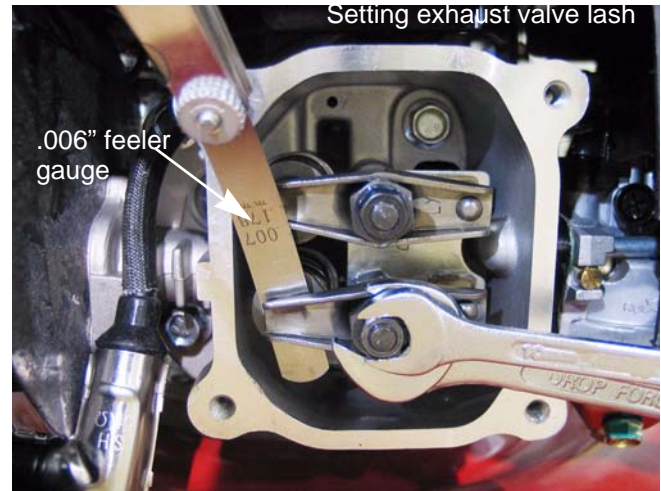

Figure 1.12
9. Exhaust valve lash (bottom valve) should be .005-.007” (.15 ± .02mm). See Figure 1.12.
10. Use a 10mm wrench to loosen the jam nut, and a 14mm wrench to adjust the rocker arm fulcrum nut. See Figure 1.12.